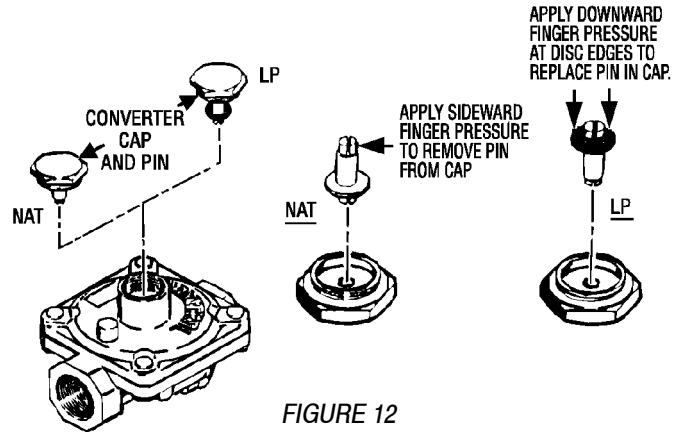

FIGURE 12
B. INVERT CAP IN APPLIANCE PRESSURE REGULATOR (See figure 12)
C. INVERT CAP IN APPLIANCE PRESSURE REGULATOR. (See figure 12).